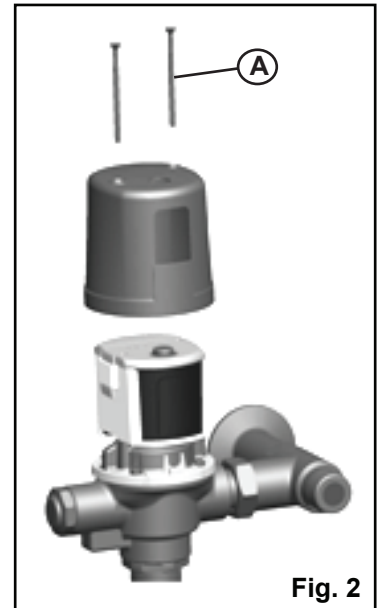

Fig. 2
TIGHTEN the cast cap assembly to the flushometer valve body with the 4 screws (item #9b, Part # 060078A) (see Fig. 2).
- Remove the chrome cover by taking out the two cover screws (part A on Fig. 2).